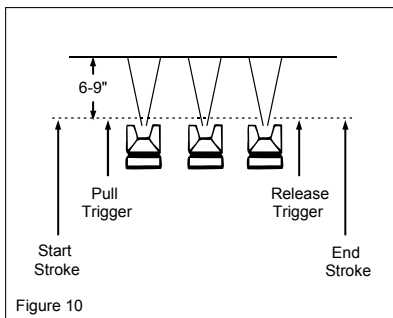

Figure 10
5. Trigger the gun properly. Start the gun moving at the beginning of the stroke before squeezing the trigger and release the trigger before stopping gun movement at the end of stroke. This procedure will feather/blend each stroke with the next without showing overlap or unevenness. (See Figure 10)